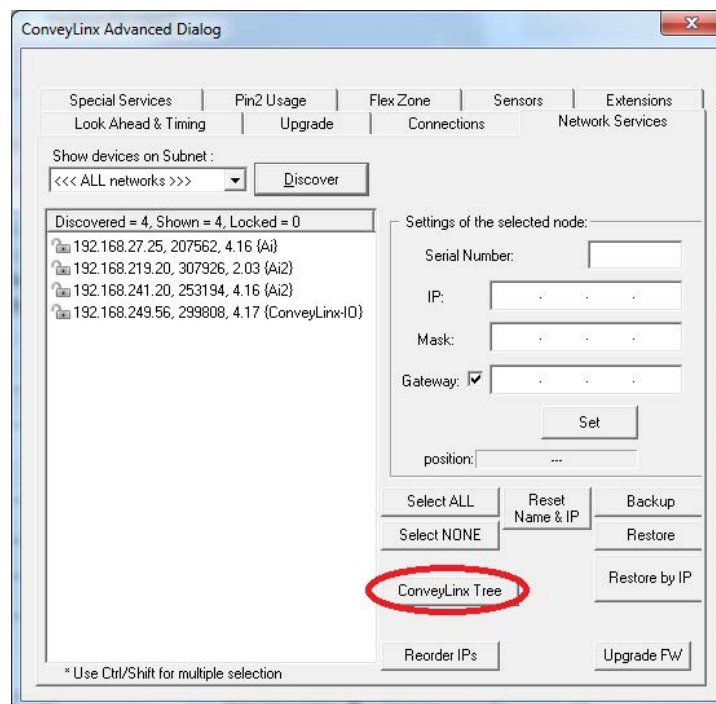
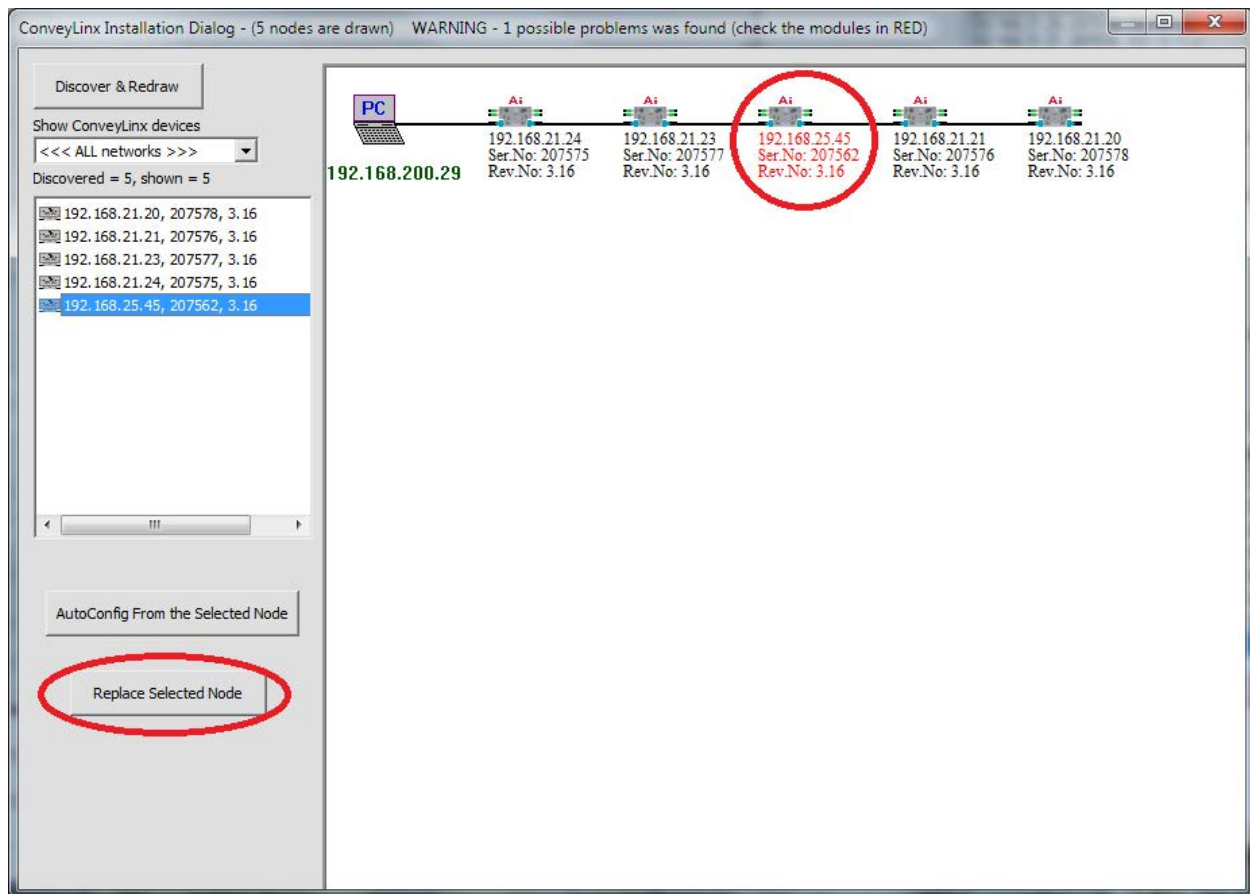

FIGURE 25 - EASYROLL NETWORK SERVICES TAB AFTER DISCOVERY
FIGURE 26 - TOPOLOGY VIEW AND REPLACING THE SELECTED NODE
3. Start *EasyRoll V4.12* or higher. Press F2 and go to tab **Network Service**, click on **Discover** button. All modules in the network should be display. Click on **ConveyLinx Tree** button as shown in Figure 25 . Topology of the ConveyLinx modules will be display in a few seconds. Select the *ConveyLinx* module from the list on the left side and click on **Replace Selected Node** as shown in Figure 26. Note that this module's text detail in the topology view will be in RED.